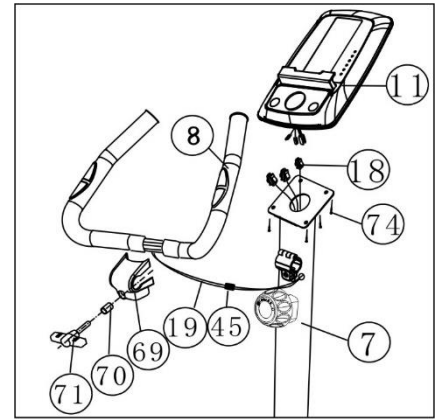

Figure 4
b. Connect the Computer wire (18) and the Pulse wires (19), insert the surplus wire into the Handlebar (7). Take Crosshead bolt M5×10 (74) from the computer (11) ,and use it fix the computer (11) to the top of handlebar support (7). (Refer figure 4)